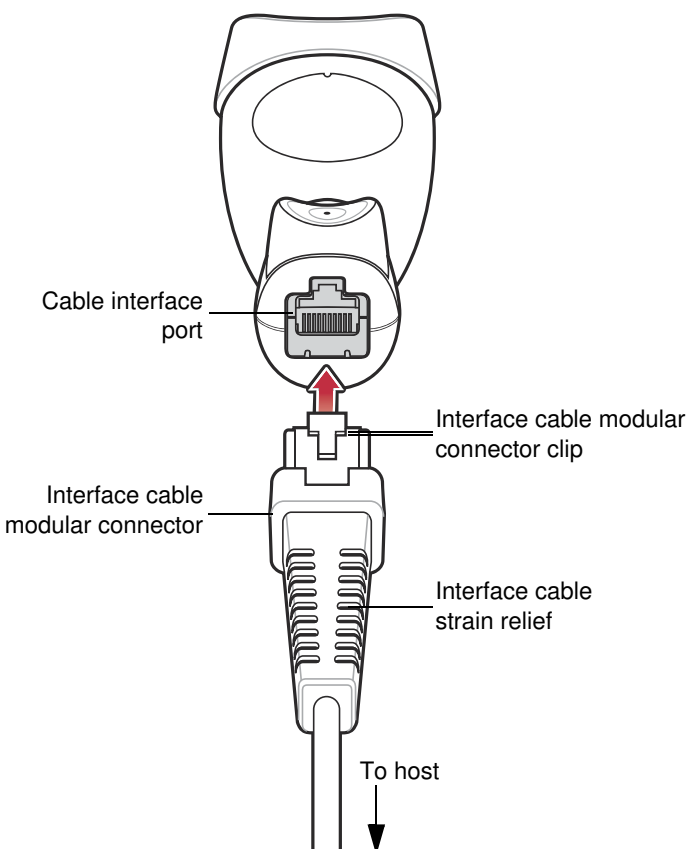

Figure 1-2 *Installing the Cable*
1. Insert the interface cable's modular connector clip into the cable interface port on the bottom of the scanner handle. (See Figure 1-2.)